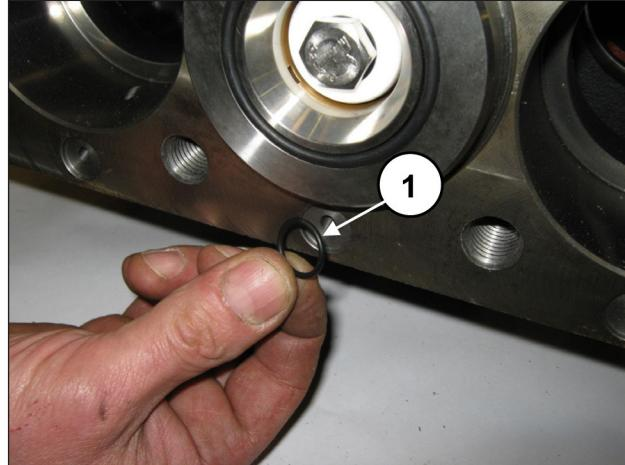

Fig. 163
Fit the 6 front O-rings in the pump casing (pos. ①, Fig. 163).